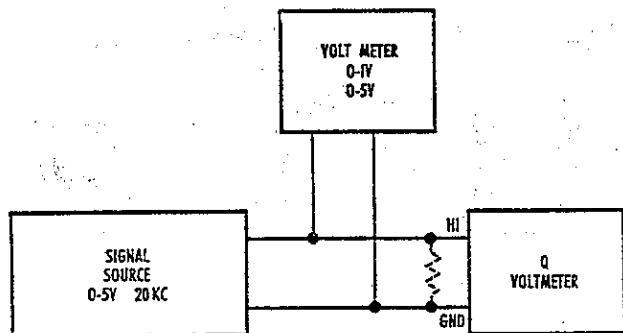

Figure VI-5 Q voltmeter calibration circuit
Connections are shown in Figure VI-5. The procedure is as follows:
f. Remove the shorting strap and set the resonating capacitor at minimum capacitance. Connect the calibrating equipment as shown in Figure VI-5.